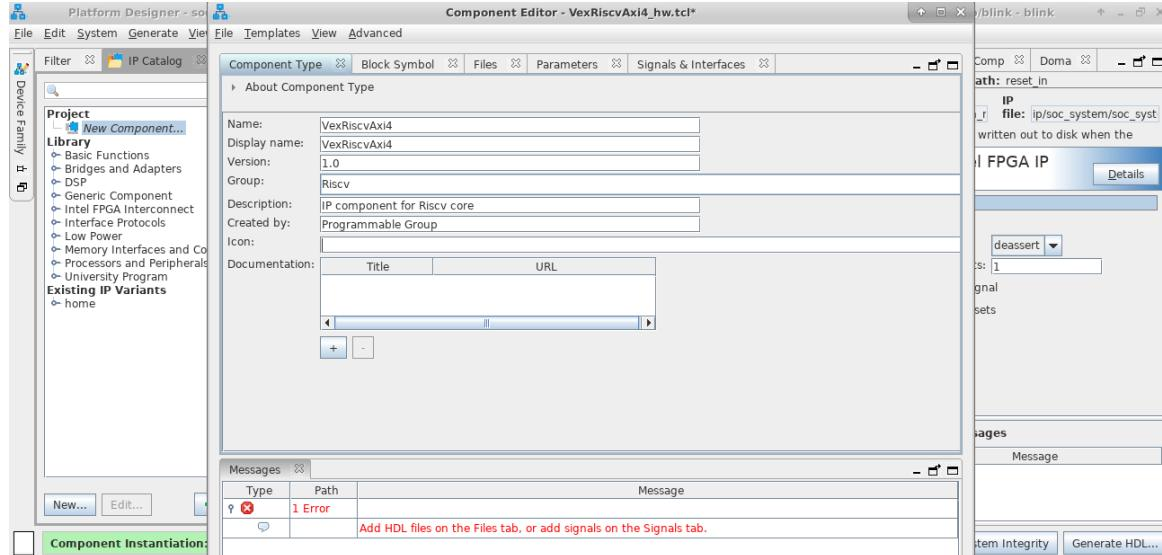

Figure 19: Component Editor
The Platform Designer Component Editor, accessed by clicking New Component in the Platform Designer window, allows you to create and package a custom IP component for use in platform design to build SoC system as shown in Fig. 19
- Specify component's identifying information, such as name, version, author, etc. details are shown in Fig. 19